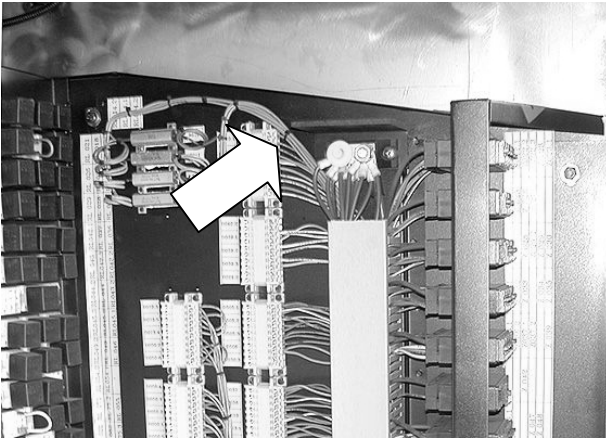

Figure 2: Open top J-box
- 2) Check the junction box for the presence of a closing panel (see Figure 2).